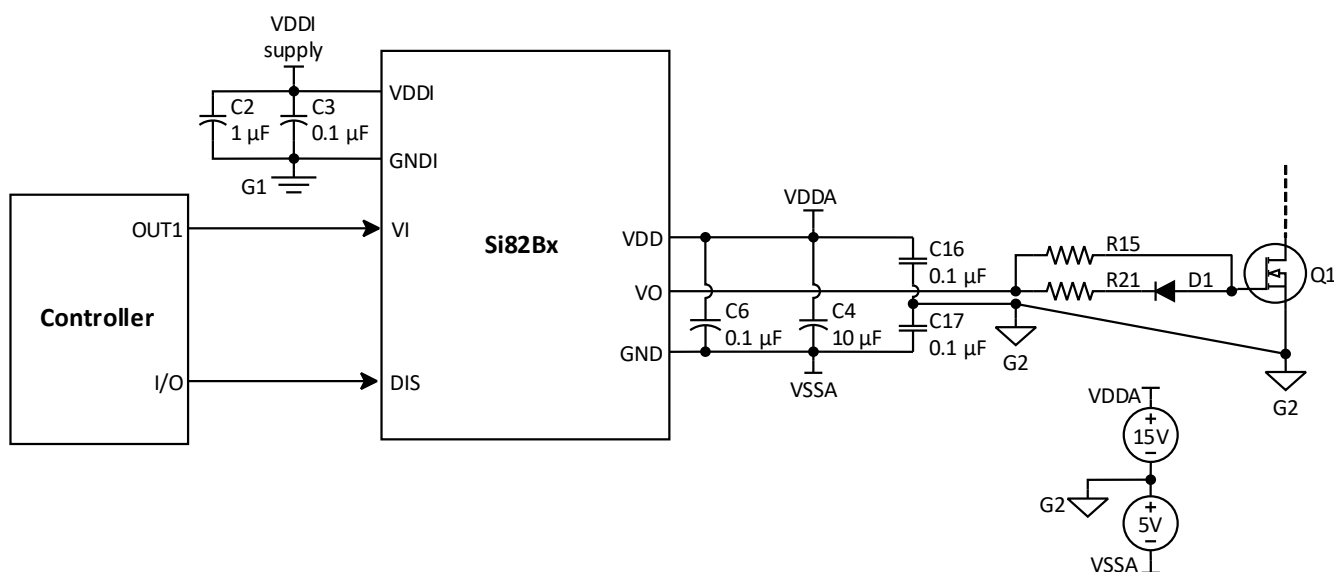

Figure 21. Si82Bx Bipolar Output Connection
The diagram shown in Figure 21, “Si82Bx Bipolar Output Connection,” on page 20 is similar to the above circuits except that the drivers produce the bipolar V_{GS} output voltage. The bipolar V_{GS} output requires the system to provide positive and negative voltage sources. Note that the bootstrap circuit cannot be used to share the low-side voltage sources with the high-side gate driver for a bipolar V_{GS} output application. In this example, +15 V and -5 V sources are used. The voltage sources' reference G2 is electrically connected to FET Q1's source.
- If the application requires extremely high common-mode transient immunity (CMTI) performance, it is recommended to add a 10 nF capacitor between each of the logic input pins and the logic input ground (GNDI), including the no connect (NC) pins. This will help improve the CMTI performance.
- If the system is designed to provide a bipolar V_{GS} output, additional bypass capacitors (C16 and C17 in Figure 21, “Si82Bx Bipolar Output Connection,” on page 20) are required to minimize the return path length of the gate drive signals.